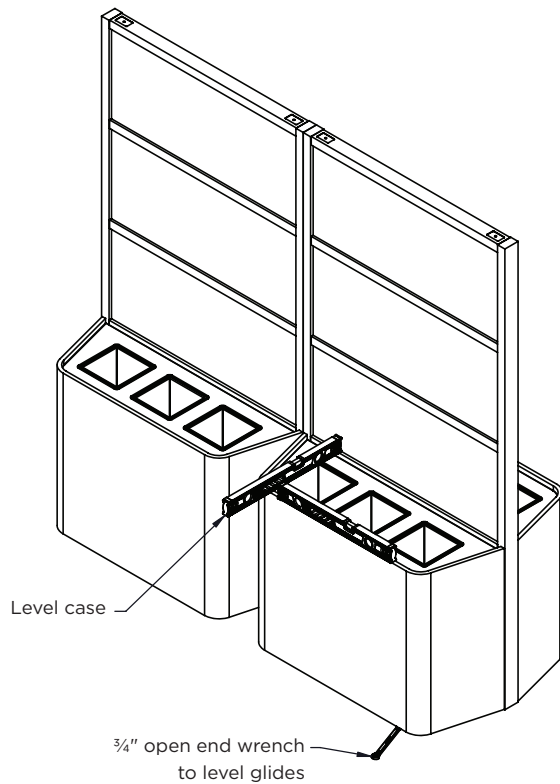
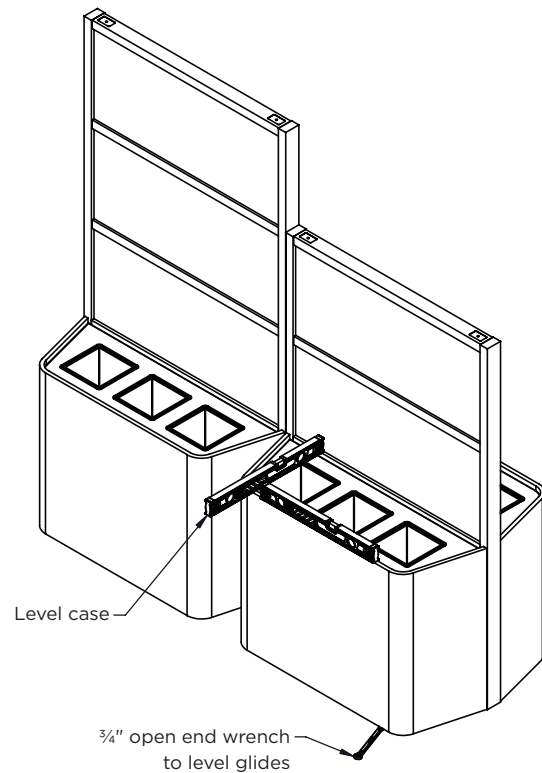

Figure 4B
Figure 4C
**Note:** Reference **Figure 4B** for 90"h to 90"h planters and **Figure 4C** for 90"h to 72"h planters